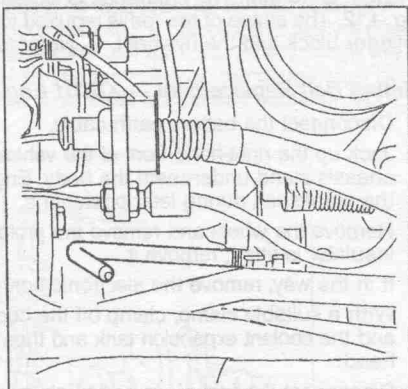
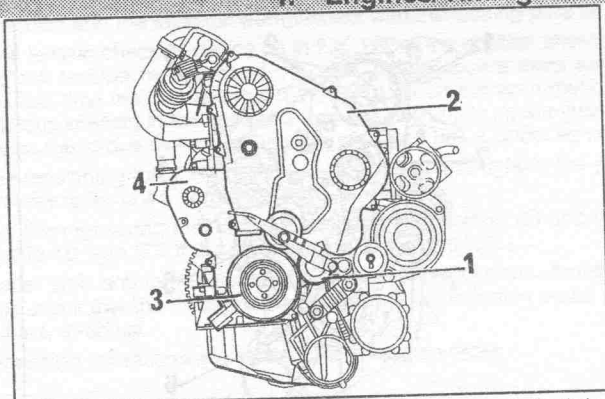

Fig. 1.55. — The locking rod (peg) for the flywheel is inserted in the position shown.
Fig. 1.59. — The parts 1 to 4 must be removed before access to the timing belt is possible (see text).
- Insert the locking rod into the cylinder block and the flywheel in the manner shown in Fig. 1.55. Turn the crankshaft to and fro until the rod has entered.
- Proceed in a similar manner as described on page 61 until the engine has the appearance shown in Fig. 1.59. Remove the roller (1), the upper timing cover (2), the crankshaft pulley (3) and the lower timing cover (4). Turn the crankshaft in the normal direction of rotation until the timing locking rod can be inserted through the cylinder block into the flywheel, as shown in Fig. 1.55.
- Insert the locking rod into the cylinder block and the flywheel in the manner already shown in Fig. 1.55. Turn the crankshaft to and fro until the rod has entered.